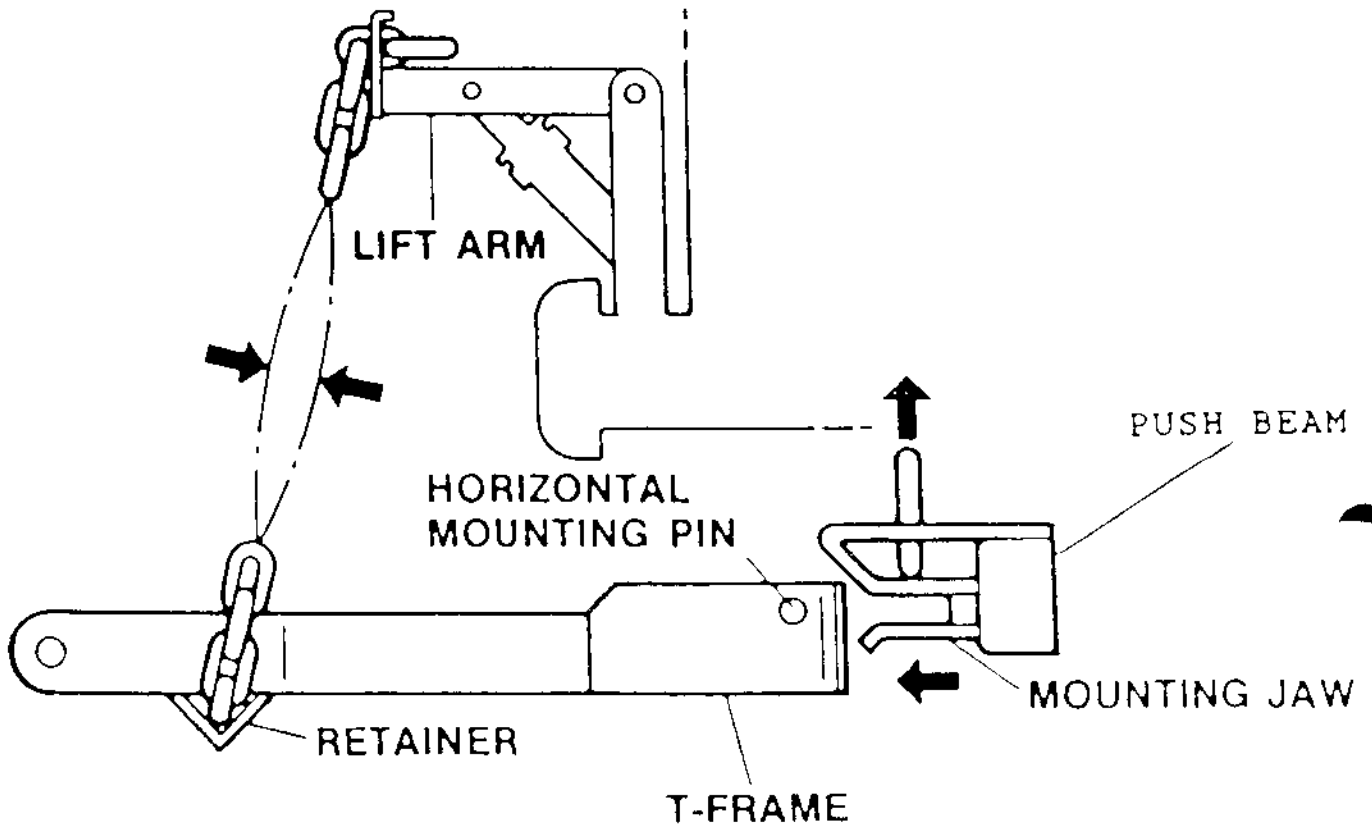

Figure 2
A). V-Plow Measure from the center of the HORIZONTAL MOUNTING PIN (See Fig. 2) on the T-Frame to the ground when the plow is in the vee position. Position the PUSH BEAM ASSEMBLY to the appropriate height so the MOUNTING JAWS (See Figure 2) will accept the HORIZONTAL PIN on the T-FRAME.
B). Straight Blade Plow The distance from the ground to the top of the lower mounting jaw should be approximately 11-1/2" (See Fig. 2).